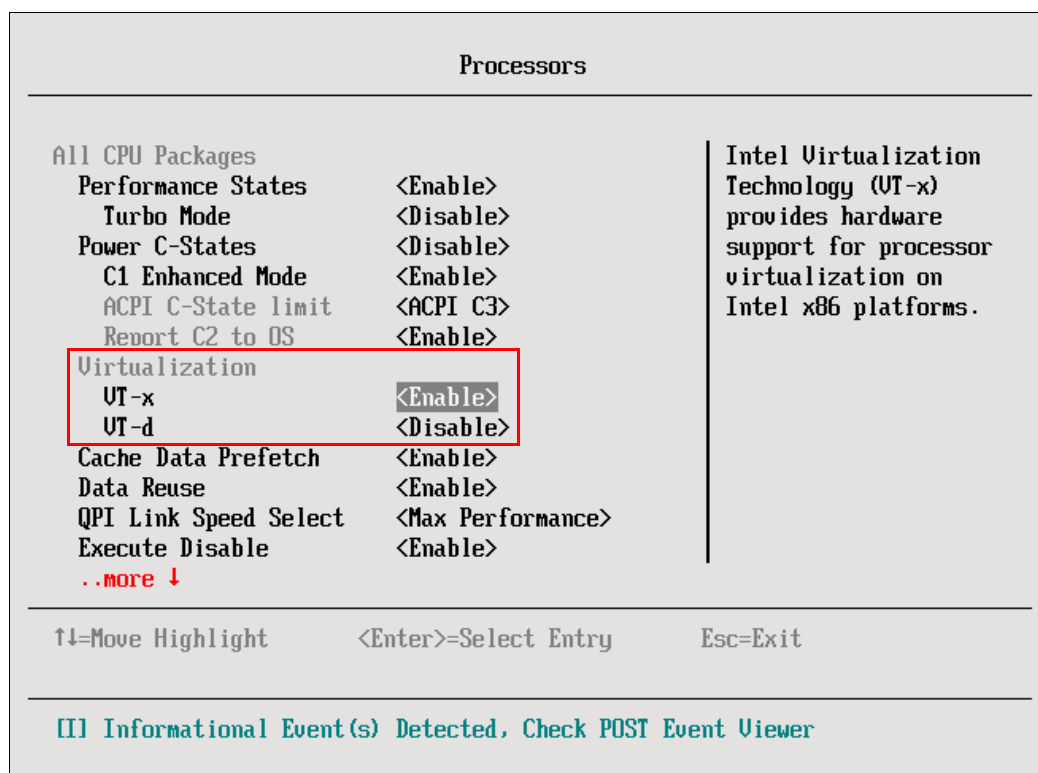

Figure 2-24 Virtualization settings in UEFI
3. Review the Intel Virtualization Technology (Intel VT) setting in the Processors setting page, as shown in Figure 2-24. Most Flex System clients run a virtualization environment, so you must ensure that the Intel VT settings are enabled.